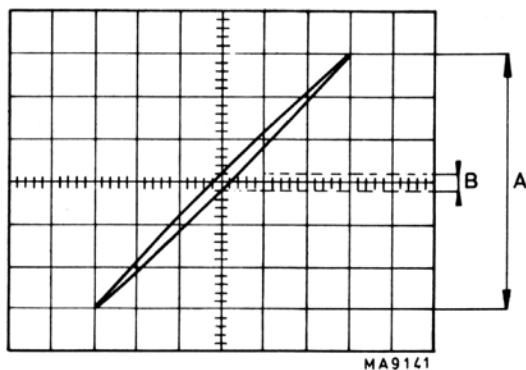

Fig. 5.7. Phase difference in X - Y mode.
- Check that the phase difference does not exceed 3° (see Fig. 5.7.) in which $\frac{B}{A}$ equals the sine of the phase error angle.